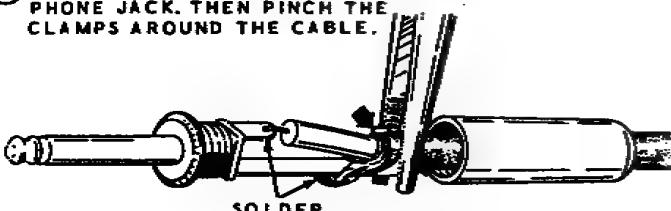

Figure 4
**Phones or Ext Spkr** - For using an external speaker or headphones. A phone plug is provided for use with your speaker or headphone leads (see Figure 4).
① PREPARE THE END OF THE CABLE AS SHOWN.